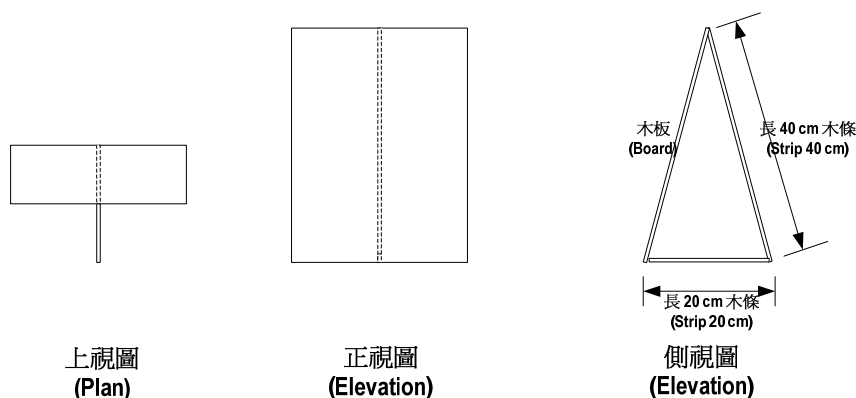

Figure 6. Description poster and board.
- Description board: each team is required to complete a description board and paste the poster onto the board within the model construction time. The board is made of the thin wooden board and wooden sticks that are provided (refer to Figure 6).